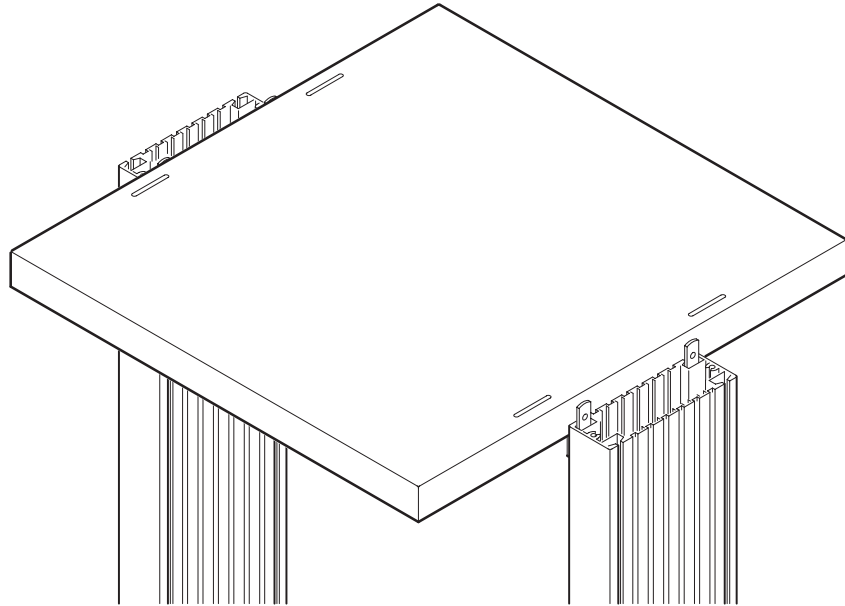

Figure 11: Aligning the Straight Shelf
2. Position the straight shelf horizontally between the leg assemblies, as shown in Figure 11. There is no designated front or back to the straight shelf; you can position it with either end to the front.